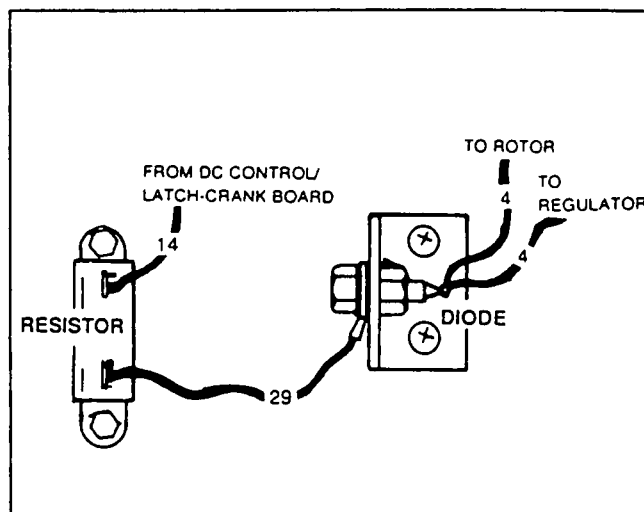

Figure 3. The Field Boost Circuit
2. Gain access to the control console interior and locate the field boost resistor (Figure 3).
With the generator engine shut down, test the field boost diode as follows (Figure 3):